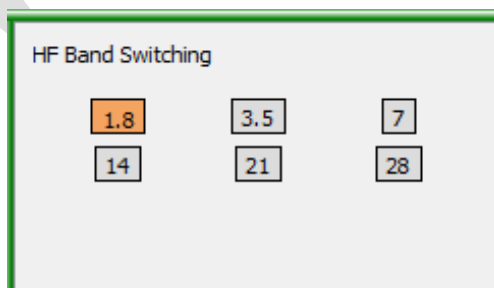

Figure 50 – HF Band Switching
3.4.1.1 Multi-band (HF) Contests
For multi-band (HF) contests the screen layout will have to be modified (see Section 3.5) to display the '**HF Band Switching**' panel (Figure 50). The orange button shows the currently active band.